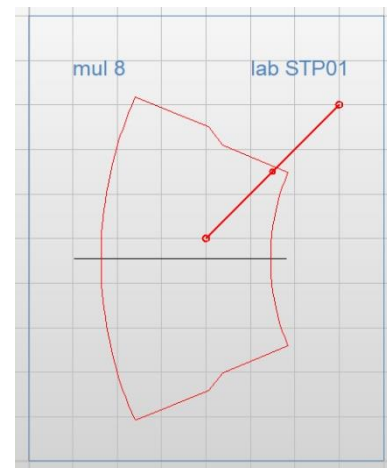

Figure 144
- Draw a line inside the command box of STEP01 as indicated in Figure 144.